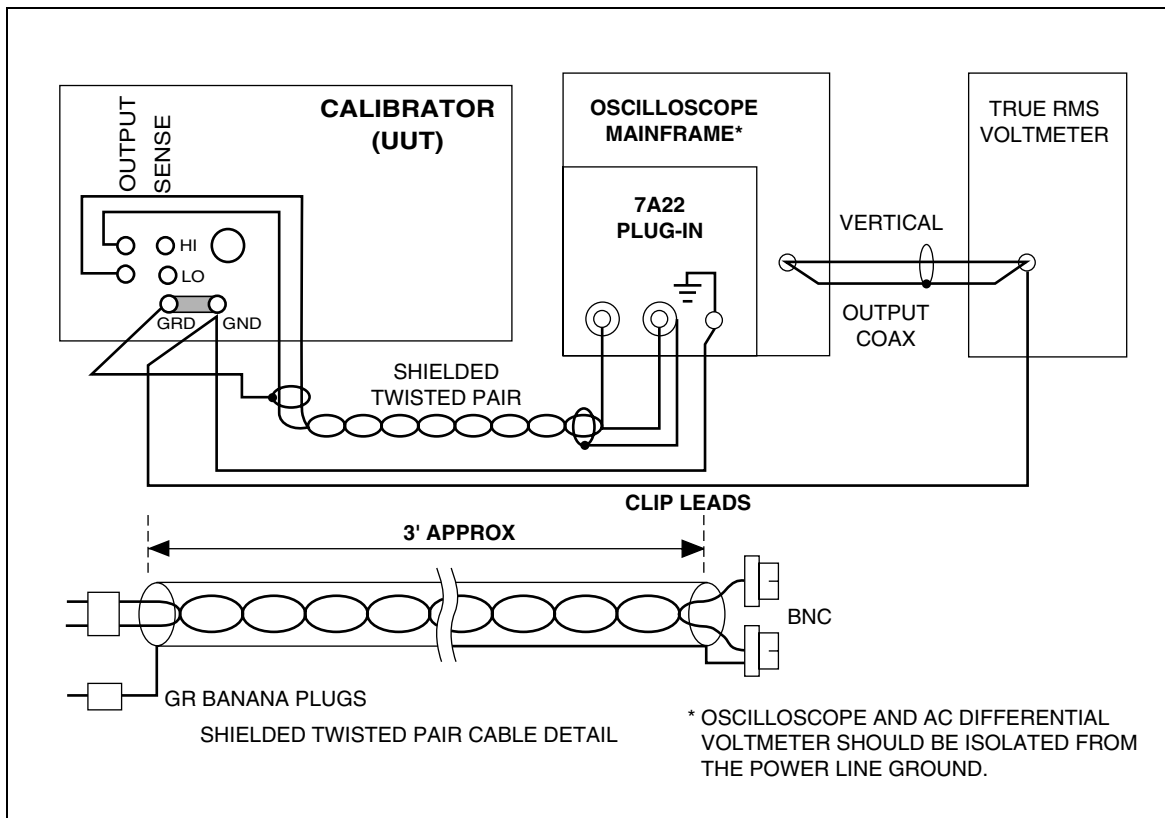

Figure 3-19. DC Voltage Output Noise Test Setup
1. Connect the equipment as shown in Figure 3-19.